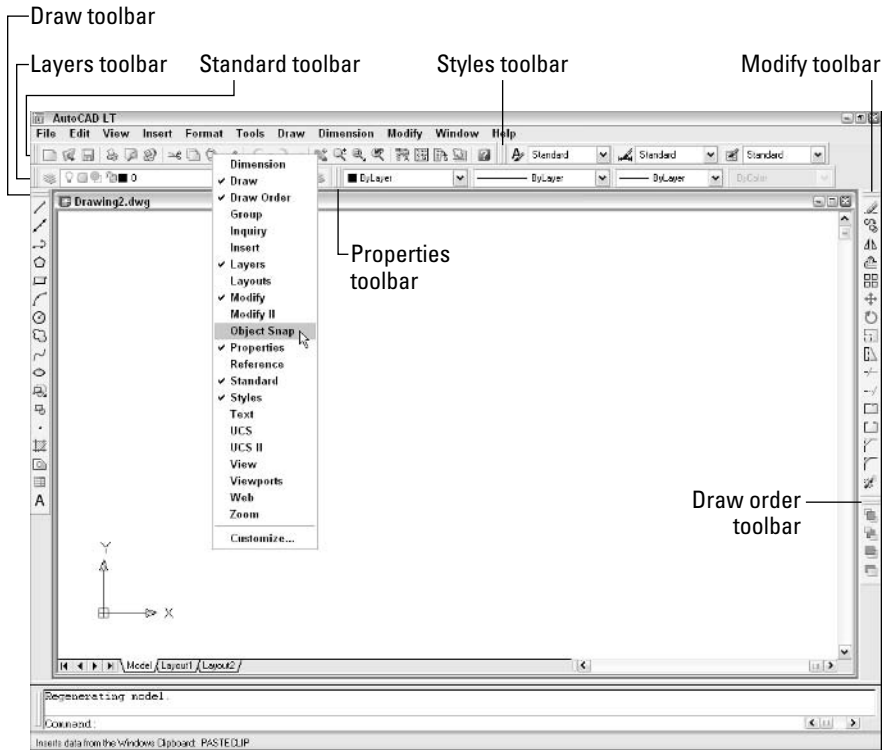

Figure 2-3:
As in other Windows programs, the toolbars in AutoCAD LT 2005 provide rapid access to the program's most commonly used commands. LT ships with toolbars in this default arrangement (as shown in Figure 2-3):
- ✓ To open or close toolbars, right-click any toolbar button and choose from the list of available toolbars, as shown in Figure 2-3.
The AutoCAD LT screen shown in Figure 2-3 shows the default toolbar arrangement, which works fine for most people. Feel free to close the Draw Order toolbar; you aren't likely to use its features frequently. You may want to turn on a couple of additional toolbars, such as Object Snap and Dimension, as you discover and make use of additional features. Throughout this book, I point out when a particular toolbar may be useful.